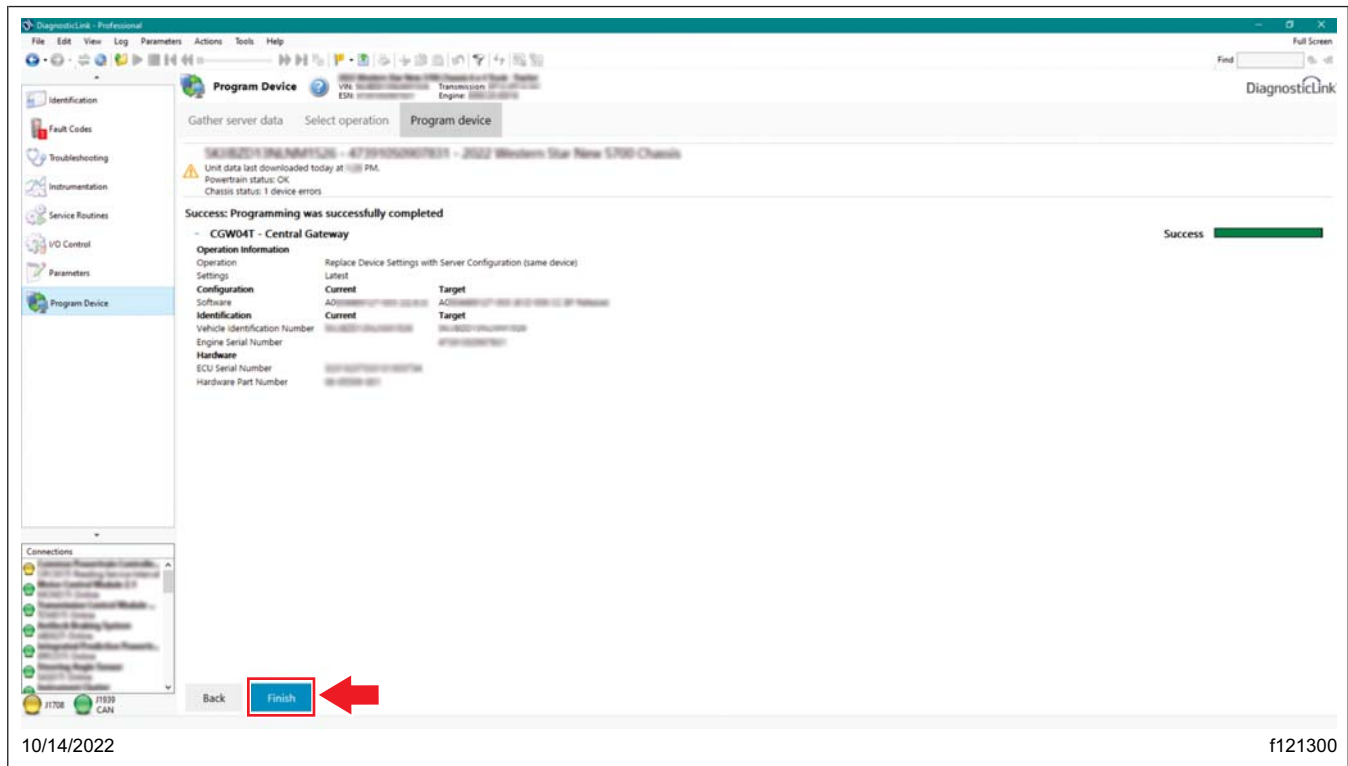

Fig. 17, Flashing Successful
21.5 Once the flashing is successful, select 'Finish.' See Fig. 17.